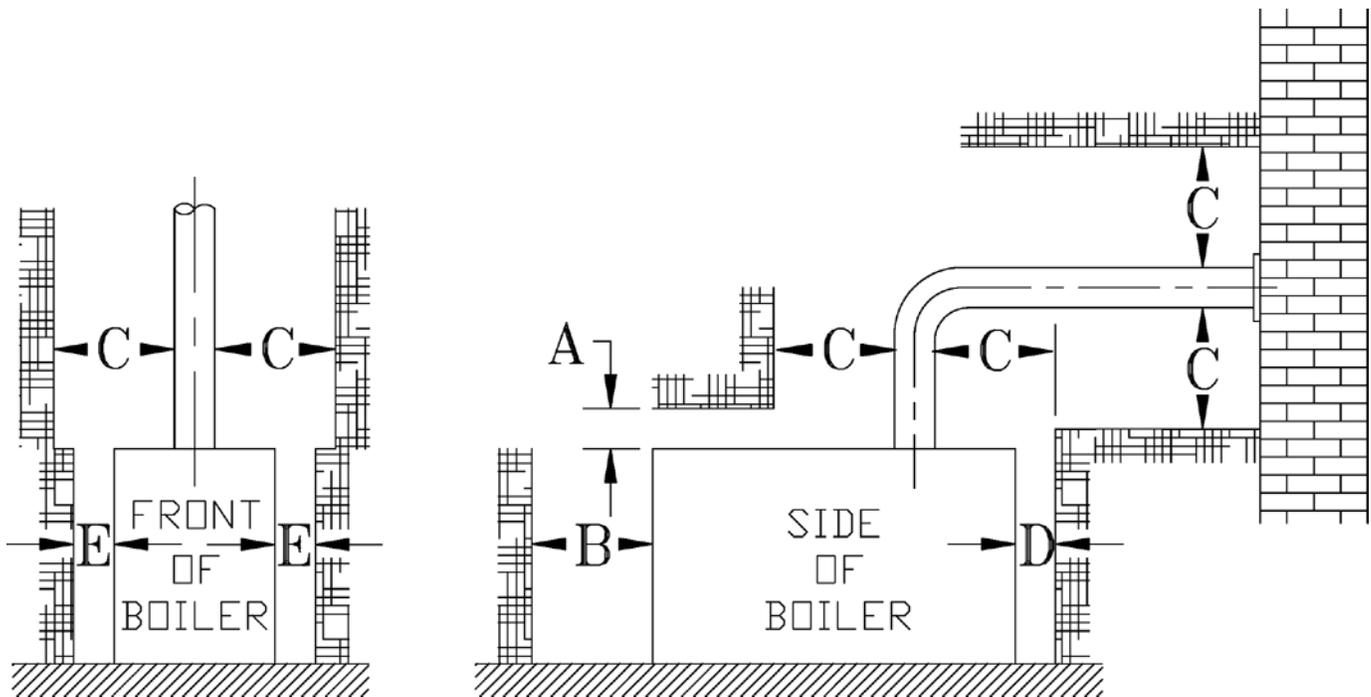

Figure 3: Minimum Installation Clearances To Combustible Materials (Inches)
- For minimum clearances to combustible materials. See Figure 3.